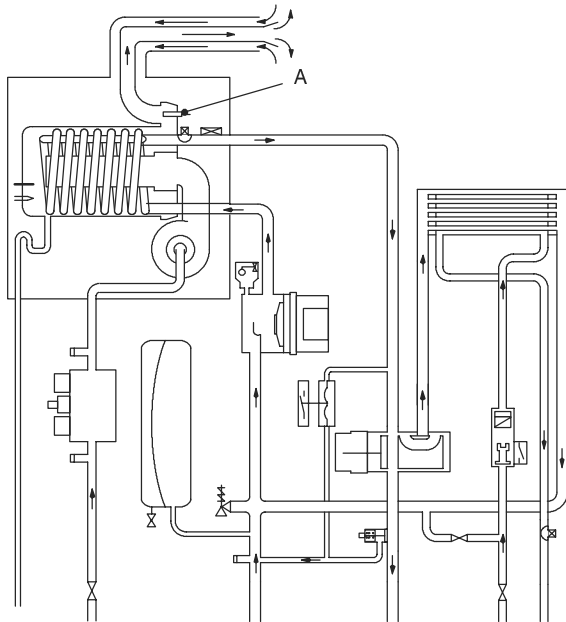
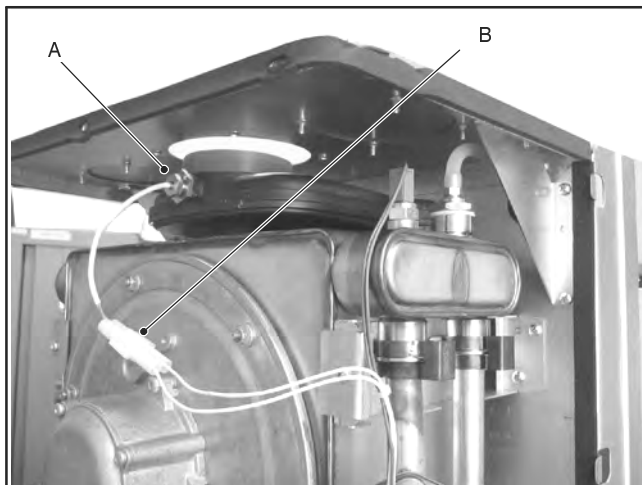

Fig. 20.1
Fig. 20.2
The Flue temperature probe NTC A in Fig. 20.1 and Fig. 20.2 senses the temperature of the combustion products that flow through the condensing heat exchanger.
- 3 Unscrew and remove the flue temperature probe A (Fig. 20.2) from the condensing heat exchanger.